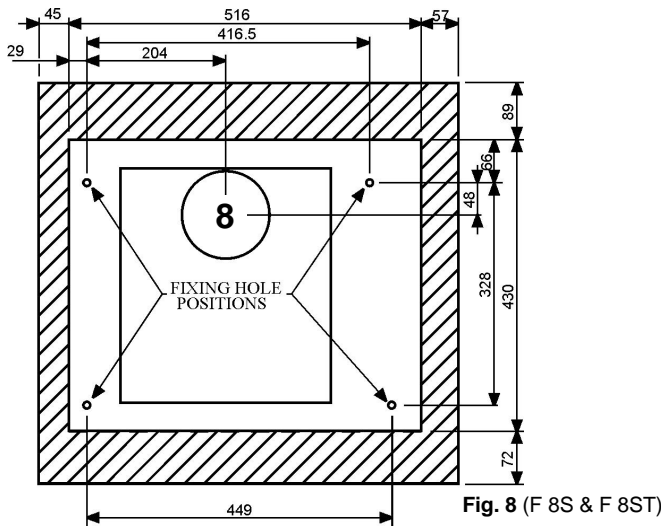

Fig. 8 (F 8S & F 8ST)
2. Select a position for the appliance. Using the template supplied, mark the position of the flue ducting and the four fixing holes. Ensure that the template is vertical (Fig. 8 or 9 depending on model).